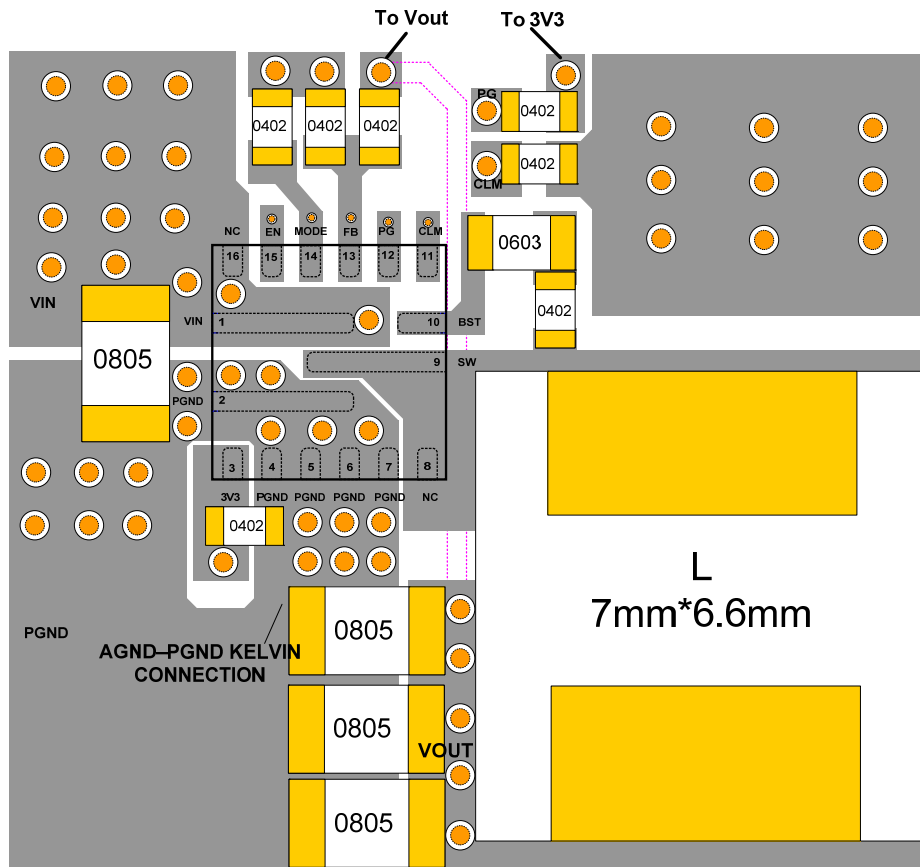

Figure 12: Recommended PCB Layout
Besides the R1 and R2 divider, the output voltage is influenced by R4 (see Figure 12). R2 should be chosen reasonably. A small value for R2 leads to considerable quiescent current loss, but a value for R2 that is too large makes FB noise sensitive. It is recommended to choose a value within 5 - 50k Ω for R2. Use a comparatively larger value for R2 when V_{OUT} is low; use a smaller value for R2 when V_{OUT} is high. The value of R1 then is determined with Equation (4):
Efficient PCB layout is critical for stable operation of the IC. A 4-layer layout is strongly recommended to achieve better thermal performance. For best results, refer to Figure 12 and follow the guidelines below.